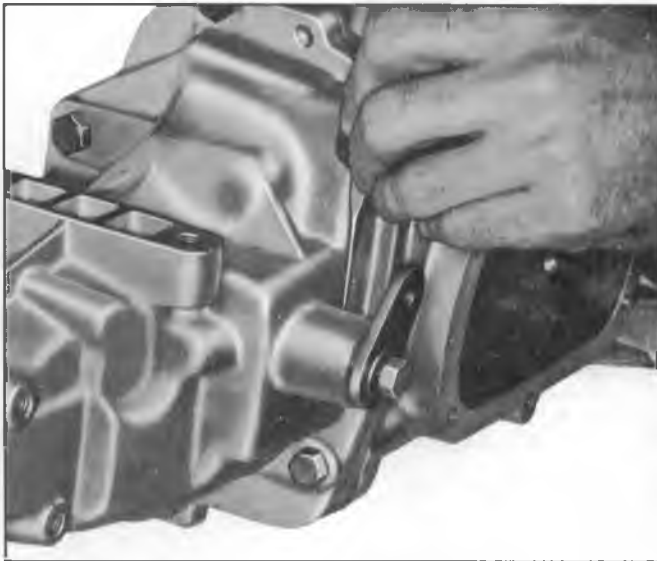

Fig. 4B—Removing Reverse Shifter Shaft Lock Pin
4. With transmission gears in neutral, drive lock pin from reverse shifter lever boss, (fig. 4B) and pull shifter shaft out about 1/8". This disengages the reverse shift fork from reverse gear.